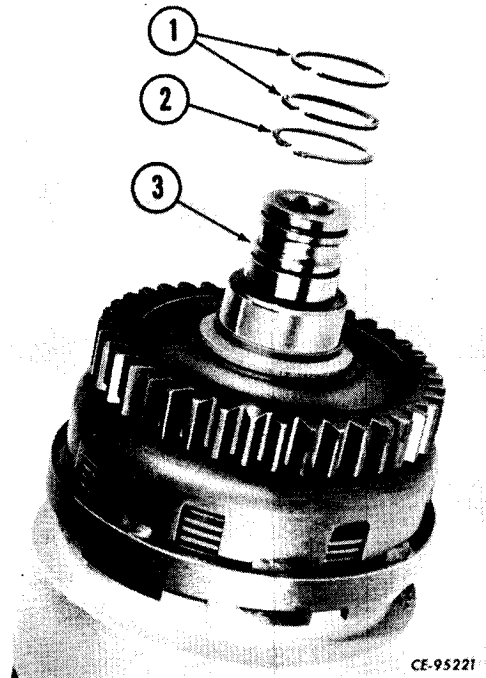

Figure 4-125
Install snap ring (2, Fig. 4-125) and hook-type seal rings (1) on shaft (3). Be sure snap ring bottoms in its groove about its entire circumference. Use caution during installation of seal rings (1) to avoid breaking rings.
NOTE: Splined end of shaft does not employ the last set of hook-type seal rings (1, Fig. 4-125).